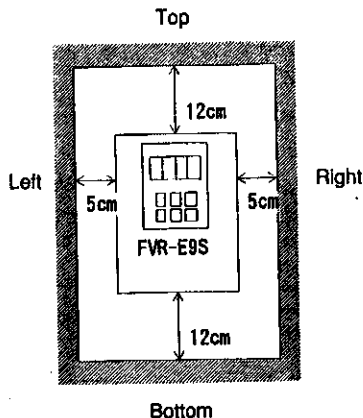

Fig. 8-2-1 Installation direction and mounting space
- ② The Inverter will generate heat during operation. Allow sufficient space around the unit as shown in Fig. 8-2-1 to ensure adequate ventilation.